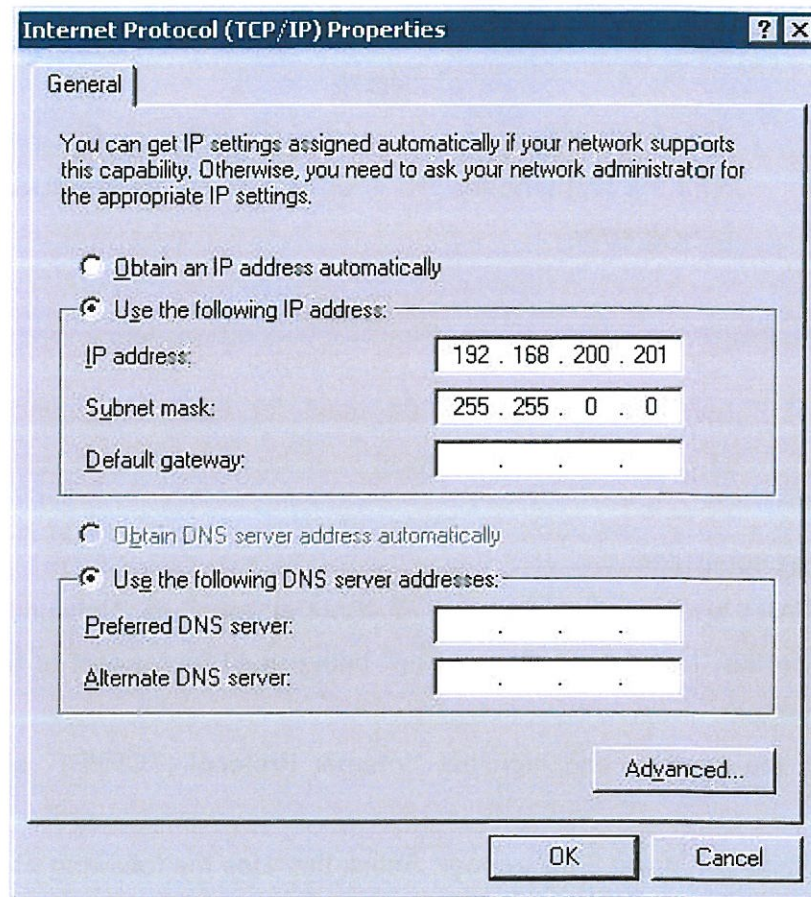

Figure 3: Internet Protocol Properties window
5. A window similar to Figure 3 will appear. Select the "Use the following IP address" button and enter the IP address 192.168.200.201 and the Subnet mask 255.255.0.0 in the window.